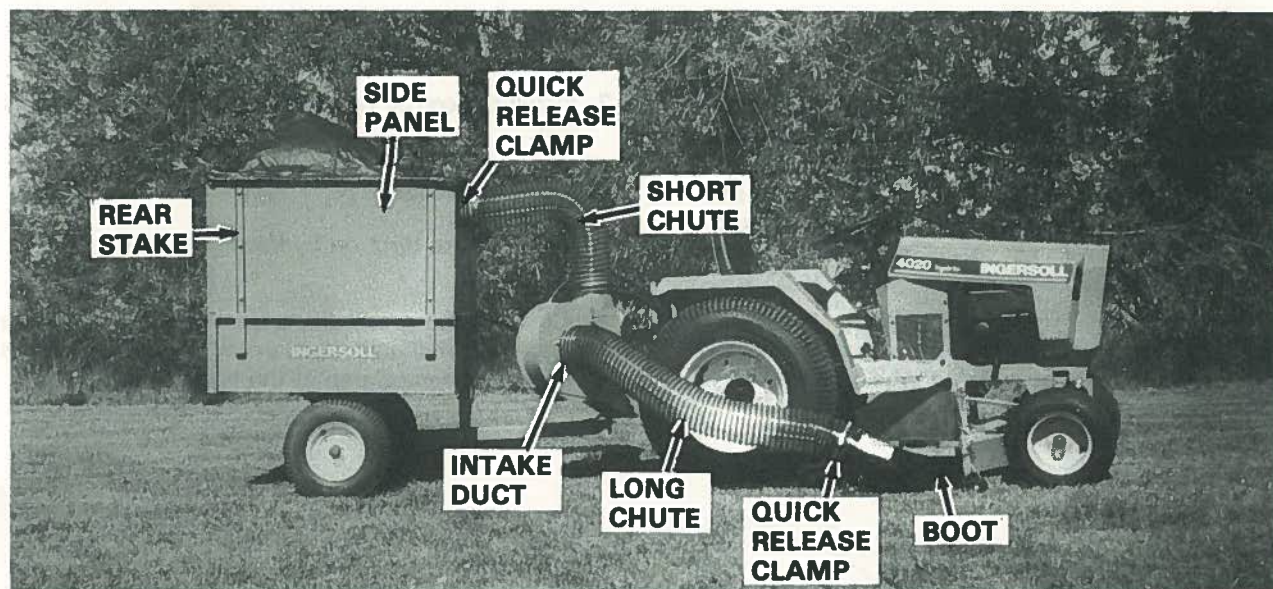

FIGURE 9
1. Attach the dump cart side panels to the rear stakes as shown in Figure 9. Leave bolts loose.